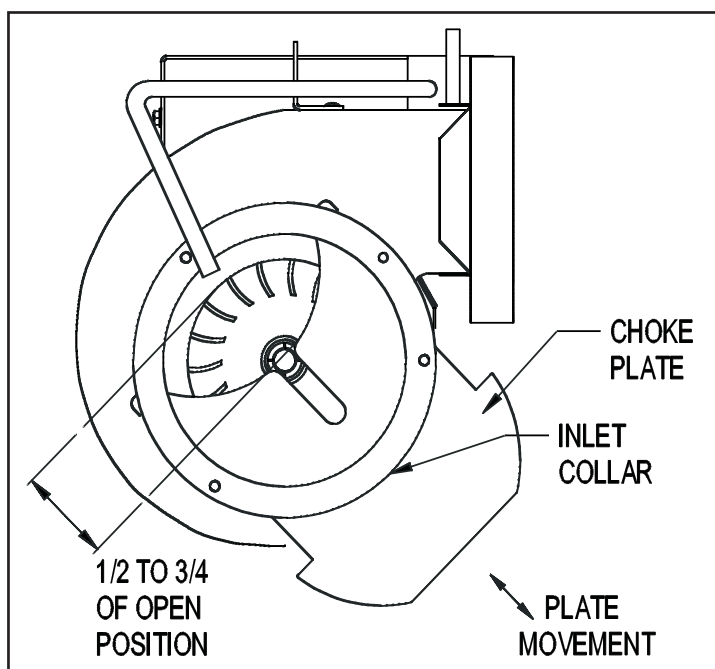

Figure 5
1. To adjust the power venter air flow, open the choke plate  $\frac{1}{2}$  to  $\frac{3}{4}$  of the way open. (See Figure 5) Follow the appliance manufacturer's procedures for starting the heating appliance.